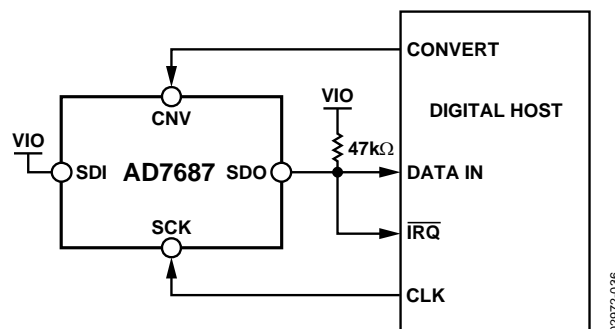
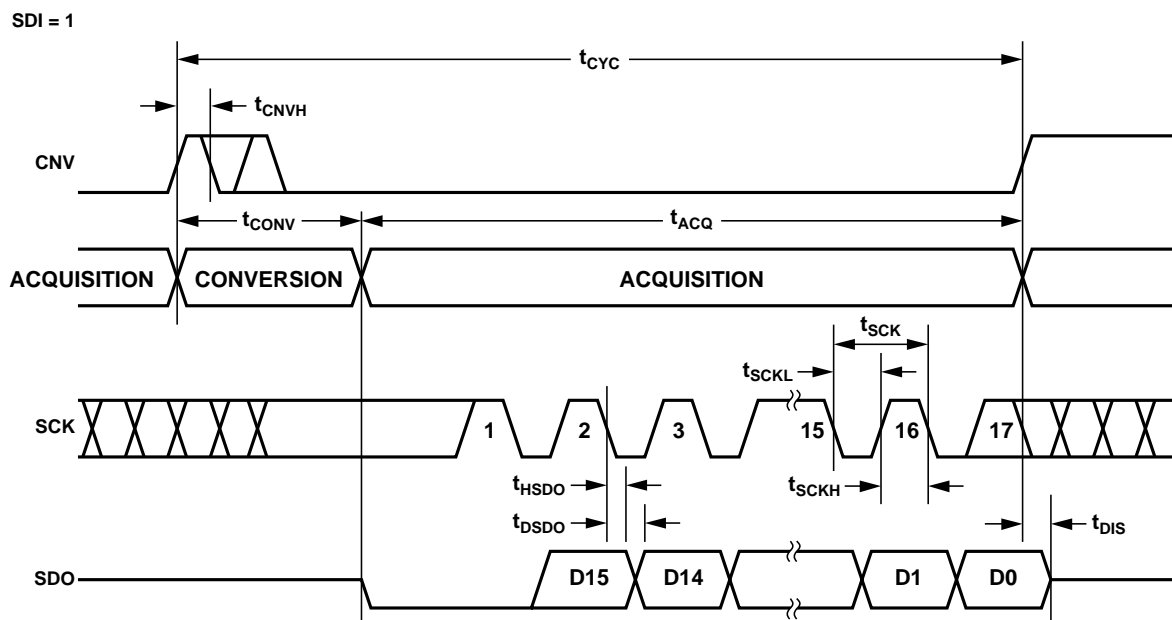
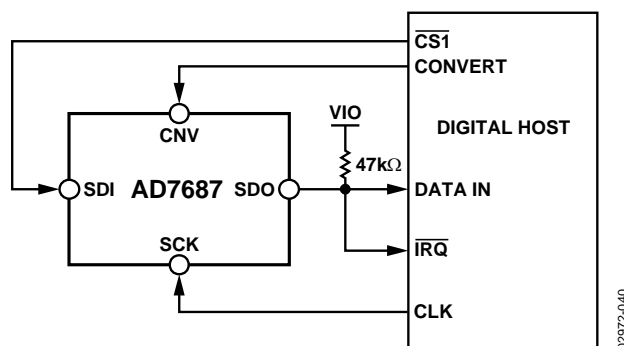
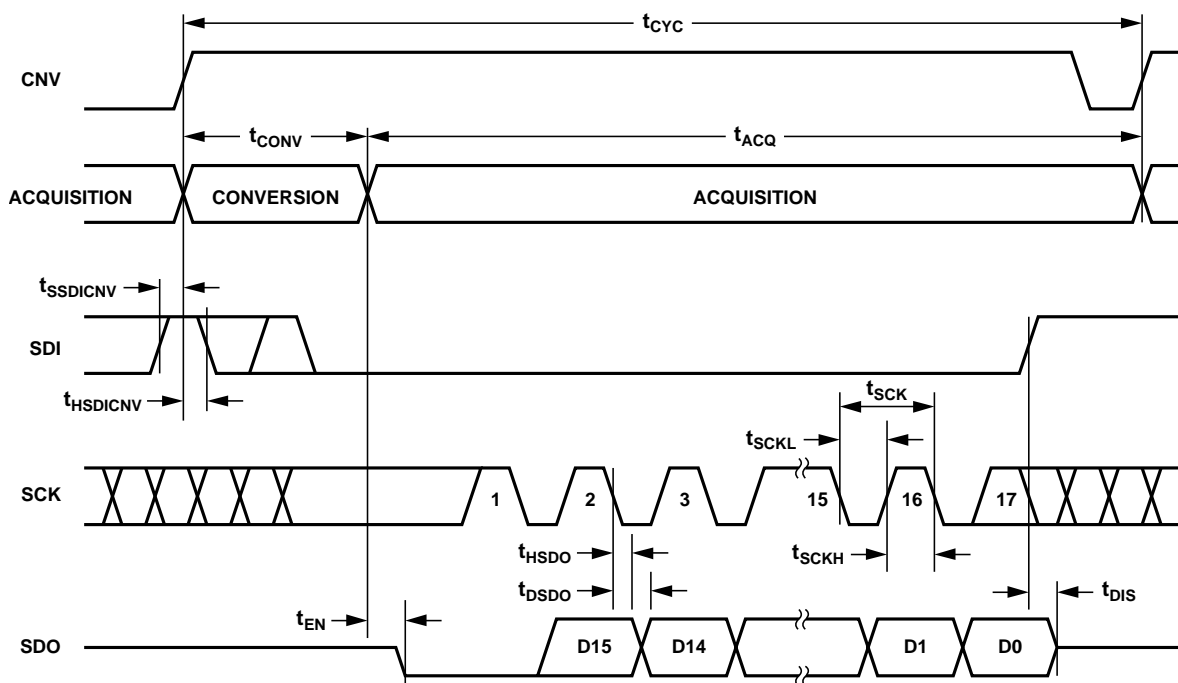

Figure 37. $\overline{\text{CS}}$ Mode 3-Wire with $\overline{\text{BUSY}}$ Indicator Connection Diagram (SDI High)
Figure 38. $\overline{\text{CS}}$ Mode 3-Wire with $\overline{\text{BUSY}}$ Indicator Serial Interface Timing (SDI High)
Figure 41. $\overline{\text{CS}}$ Mode 4-Wire with BUSY Indicator Connection Diagram
Figure 42. $\overline{\text{CS}}$ Mode 4-Wire with BUSY Indicator Serial Interface Timing
- In the \overline{CS} mode, if CNV or SDI is low when the ADC conversion ends (Figure 38 and Figure 42).
The connection diagram is shown in Figure 37 and the corresponding timing is given in Figure 38.
The connection diagram is shown in Figure 41 and the corresponding timing is given in Figure 42.